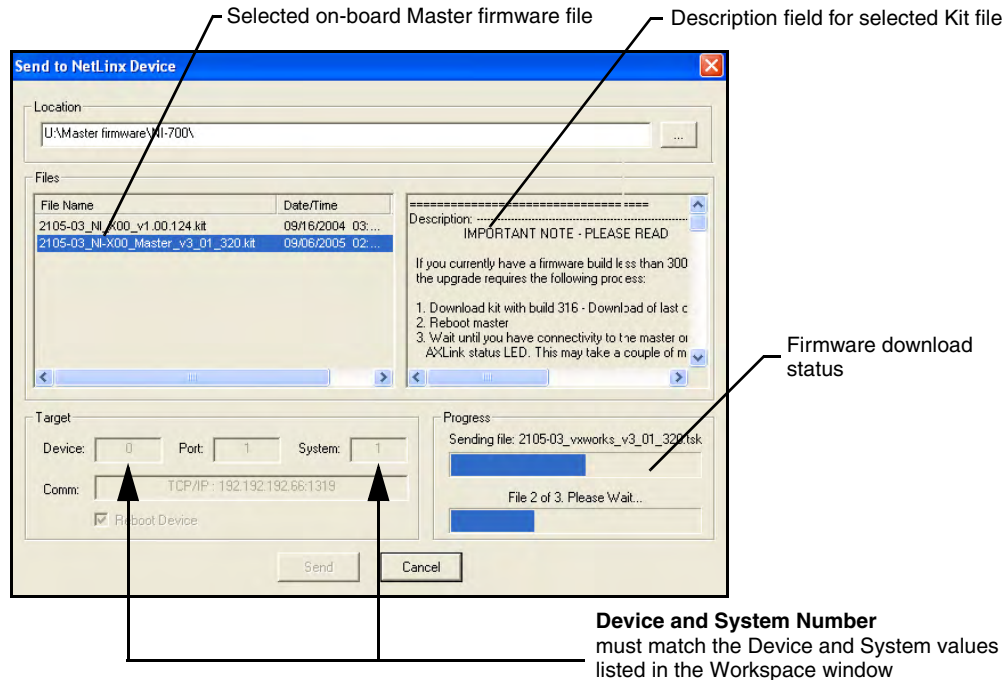

FIG. 40 Send to NetLinX Device dialog (showing on-board NI_Master firmware update via IP)
7. From within Studio, select **Tools > Firmware Transfers > Send to NetLinx Device** from the Main menu to open the Send to NetLinx Device dialog (FIG. 40). Verify the target's System number matches the value listed within the active System folder in the **OnLine Tree** tab of the Workspace. **The Device number is always 0 for the NI Master.**
8. Select the NI Master's Kit file from the **Files** section (FIG. 40).
11. Click **Send** to begin the transfer. The file transfer progress is indicated on the bottom-right of the dialog (FIG. 40).